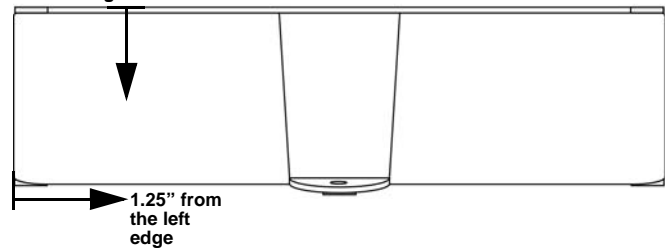

Figure 3 ACC650 enclosure bottom drill location
- If installing the liquid tight connector on the bottom of the ACC650 enclosure, drill the housing about 1.25" inches from the left side of the enclosure, as shown in Figure 3, at a point halfway between the front and back edges.